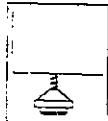

Fig 1 6
- Place your appliance on a floor that is strong enough to support the appliance when it is fully loaded. To level your appliance, adjust the legs at the front of the appliance (Fig 1).